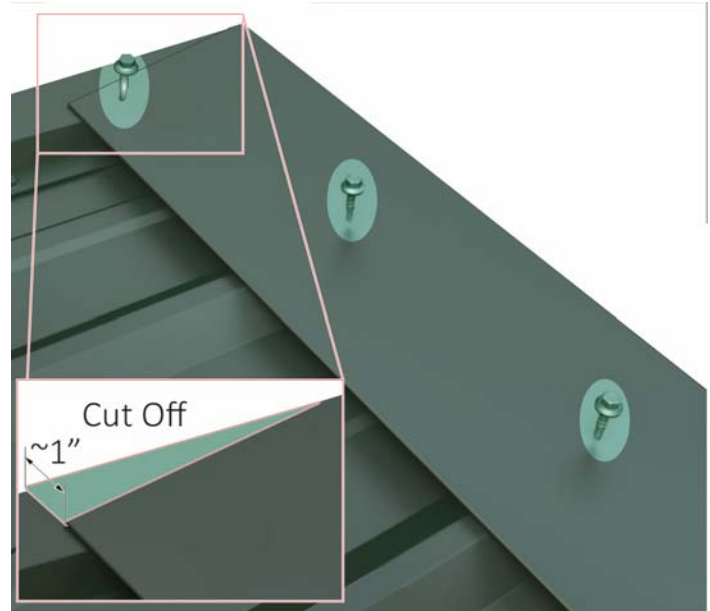

Figure 55. Attaching Front Edge Cap & Cutting Reliefs
32. Cut off a 1" wide triangle relief from both ends of the front edge cap. See inset image in Figure 55.
34. Orient one of the plastic corner caps with two (2) holes on the bottom and one (1) hole on the top.
37. Using the bottom of the corner cap as a template, make two (2) pilot holes in the metal fascia with a 1/8" drill bit.
38. Attach the bottom edge of the corner cap to the bottom edge of the roof corner using a T10 star drive and two (2) trim head screws- do not over tighten.
40. Using the top of the corner cap as a template, make one (1) pilot hole in the metal fascia with the 1/8" drill bit.
41. Attach the top edge of the corner cap to the top roof corner using a 1/4" socket head drive and one (1) gasketed roofing screw.